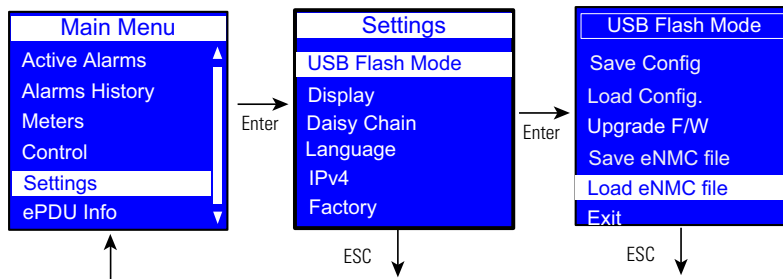

Figure 70. Example Load NMC File Display
4. Select Load eNMC file, then click **OK** to upload the ePDU hardware configuration file to the eNMC (see Figure 70).